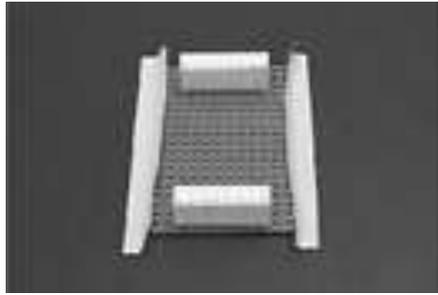

Figure 4-16: Green fixture is temporarily replaced by a white fixture.
STEP 3: The green fixture is temporarily replaced by a white fixture – i.e. back at workstation 3 (see Figure 4-16).